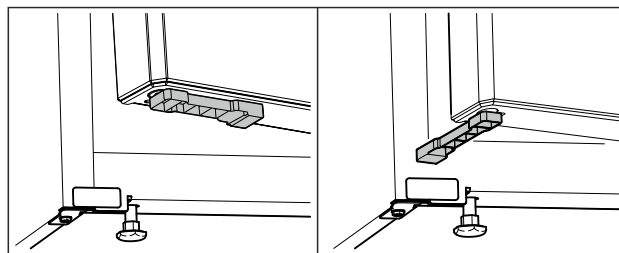

Fig. 83 *
- ▶ Turn door spacer by 90°. (see Fig. 83) *